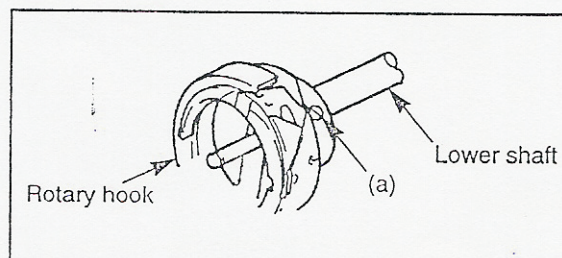

FIG. 3
- (1) Slightly loosen rotary hook retaining screw (a) closest to the hook tip and loosen the other two retaining screws (Fig. 3).
- (4) Slightly tighten rotary hook retaining screw (a) closest to the hook tip (Fig. 3 on page 26).
- (6) Firmly tighten three retaining screws (a) (Fig. 3 on page 26).
- (7) Mount the needle plate hook cover and the